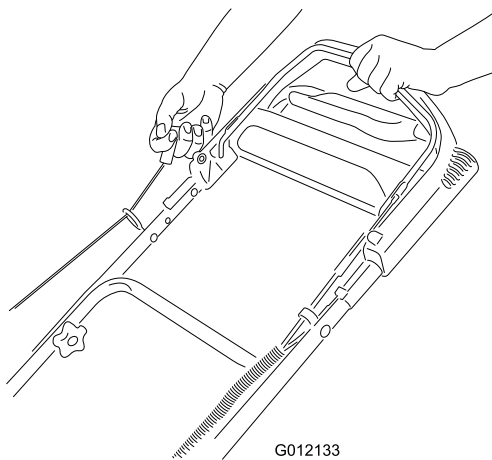

Figure 12
2. Pull recoil start handle (Figure 12).